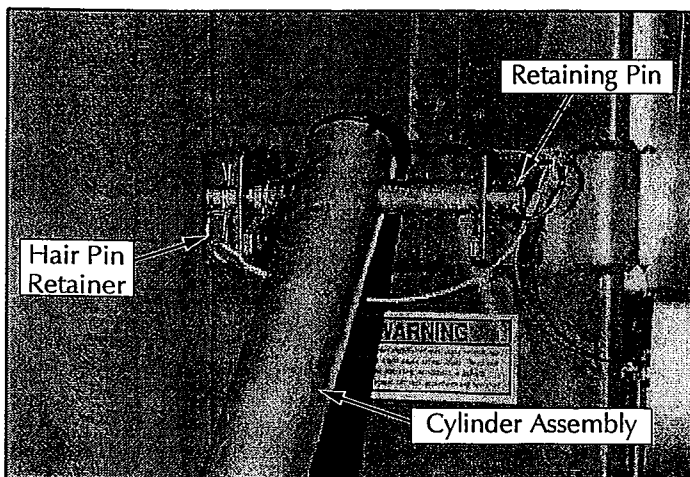

Figure 3-11: Cylinder secured with retaining pin
2. While holding Tilt Back frame, remove the hair pin retainer and the retaining pin (fig. 3-11).
3. Lower the Tilt Back frame until the hole in the cylinder assembly aligns with the upper mounting bracket pin hole. Secure the cylinder assembly to the upper mounting bracket using retaining pin and hair pin retainer (fig. 3-11).